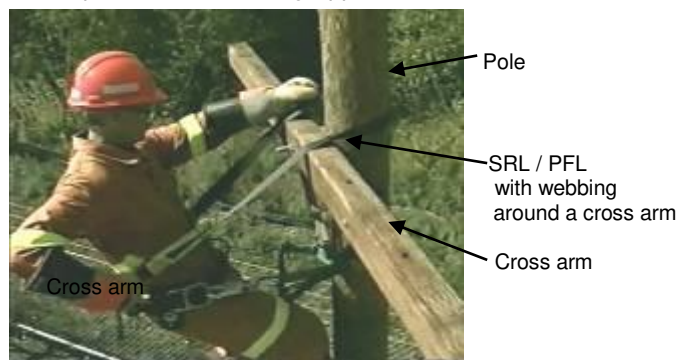

Fig. 16
- Equipment that has arrested a fall must be removed from service, destroyed, and replaced. (Note: When using the 5008 series for transitioning (fig 16) and an impact is induced on the unit, the unit as a minimum must be inspected by a qualified person, in accordance to the inspection section outlined above before allowing the unit back into service.